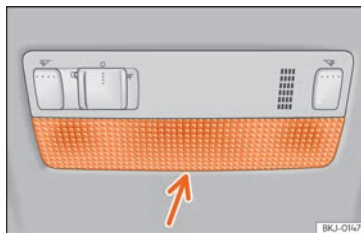

Fig. 111 Front reading light.
- Insert a fine screwdriver between the casing and the glass » **Fig. 111.**